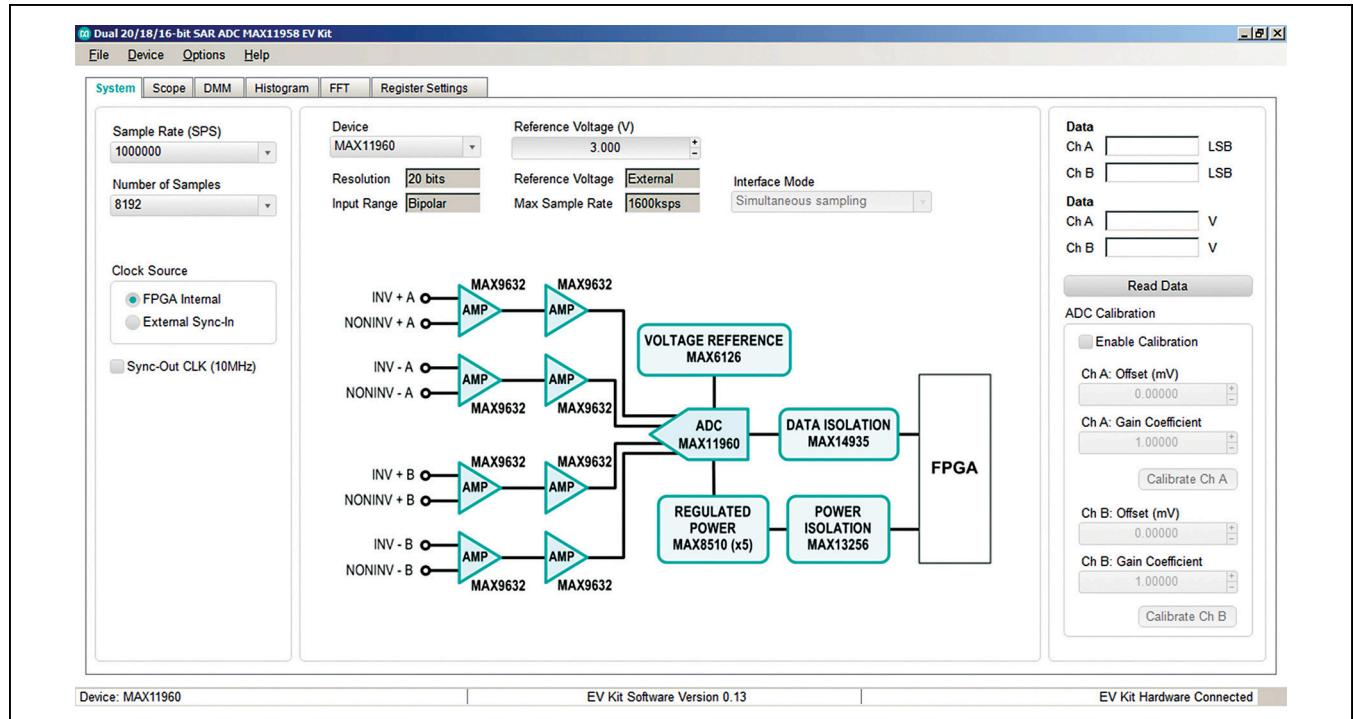

Figure 1. MAX11960 EV Kit Main Window (System Tab)
- 15) Select **MAX11960** from the **Device** Dropdown list within the **System** tab sheet (Figure 1).